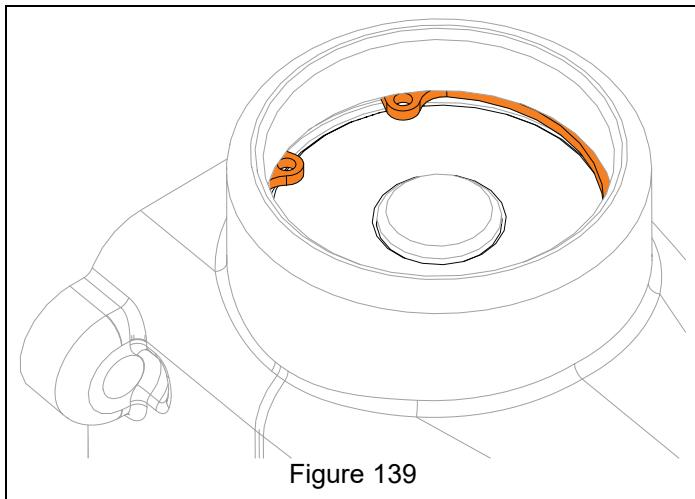

Figure 139
10. Reinstall retaining ring. See Figure 139.